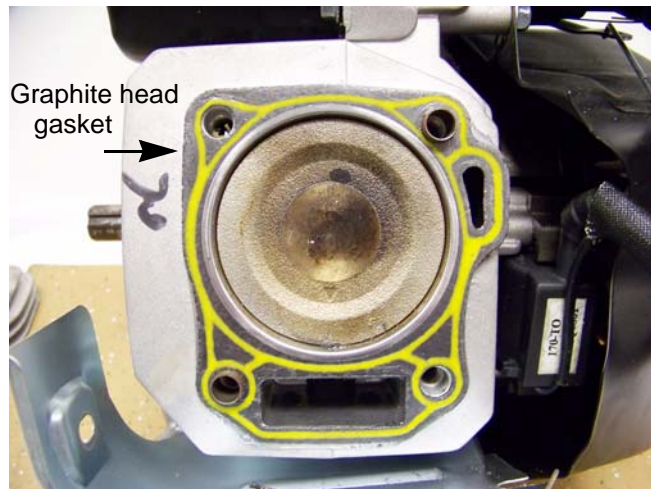

Figure 9.8
16. Place a new head gasket on the cylinder, allowing the alignment dowels to hold it in place. See Figure 9.8.